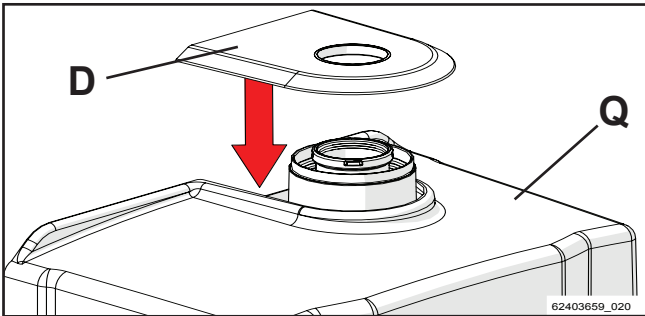

Figure 5-46
- 9 - Apply the Rainproof gasket "D" on the cover "Q" as shown in figure 5-46;